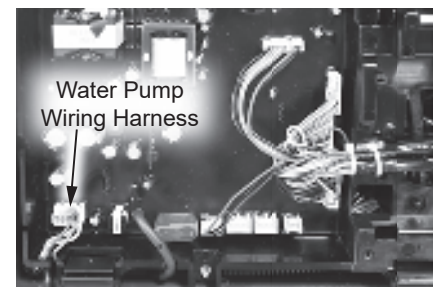

Figure 177 - Water pump wiring harness location
- 14 Locate the water pump wiring harness on the control board panel as shown in Figure 177. Disconnect and route the wiring out of the away for ease of removing the water pump.
- 30 Place the water pump into the water heater cabinet, routing the wiring harness cable behind the condensate collector and under the control board panel as shown in Figure 177. Use caution not
35 Lift the control board panel up and reconnect the water pump wiring harness previously disconnected in **Step 14**. Slide the wiring through the slot in the circuit board panel as shown in Figure 177. Lower control board panel.